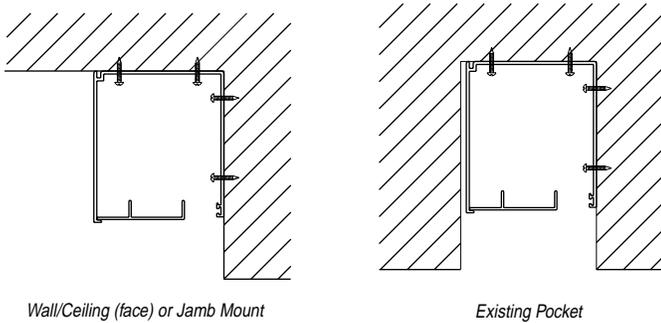

Figure 6
- ⑤ Verify dimensions of opening and refer to order for overall dimensions of the unit. Determine location of head box directly above and centered on the opening. It is critical that the head box is installed absolutely level (use shims and caulking if needed). Install head box assembly using appropriate fasteners through pre-drilled holes in end caps, then drill through cover for wall ceiling mounting (see Fig. 6).